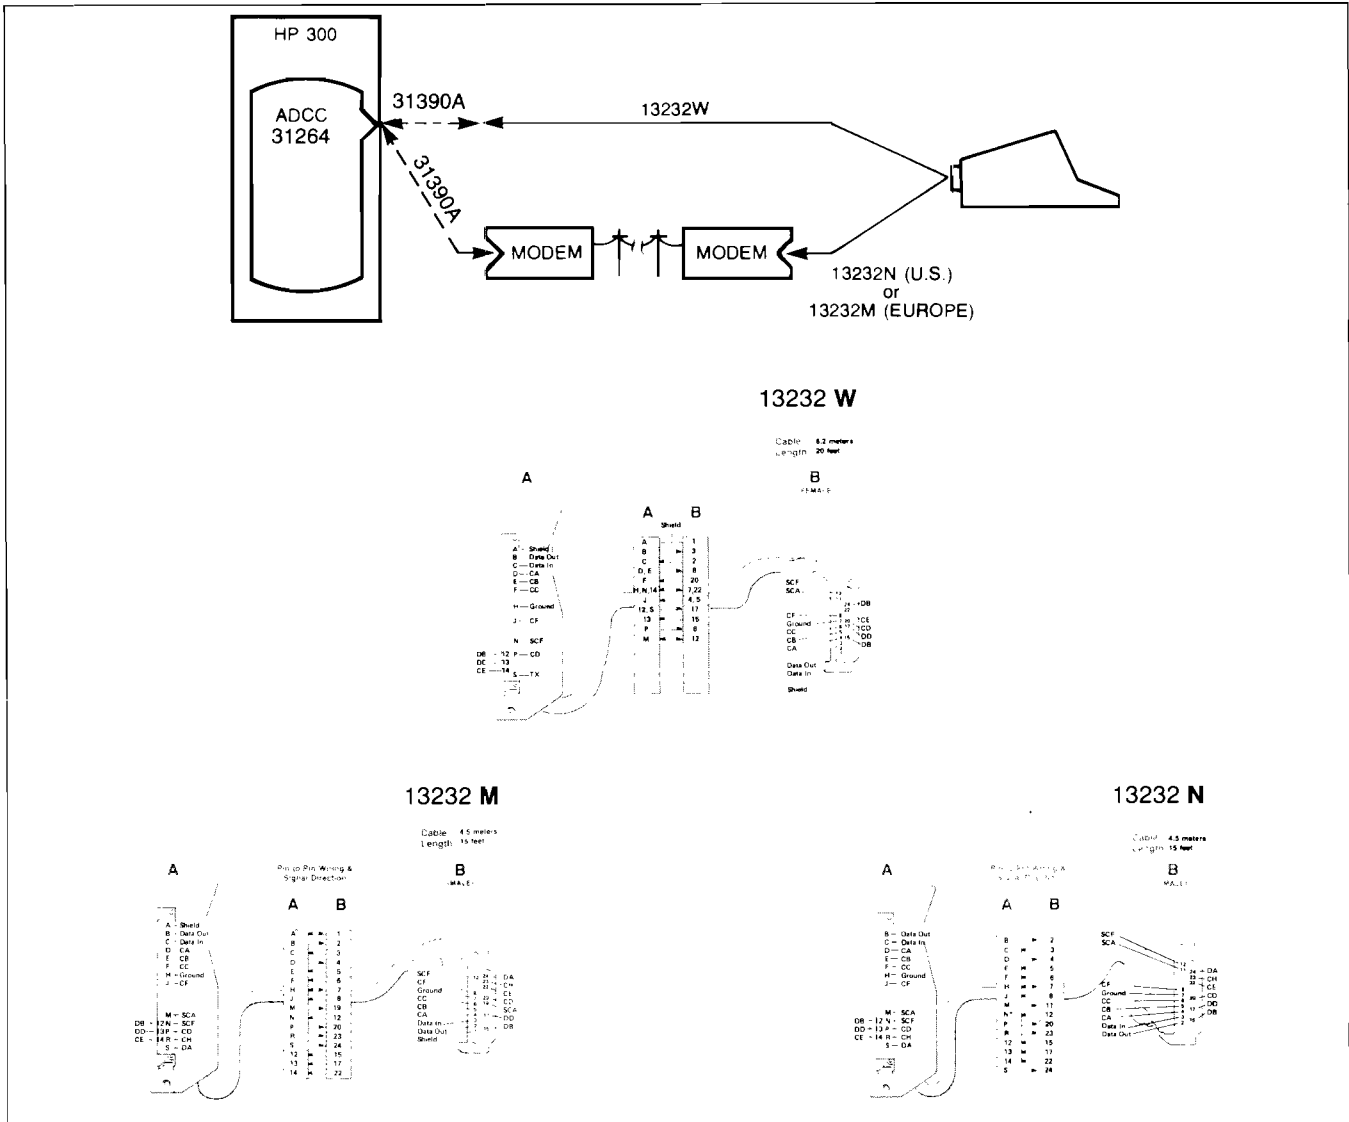

Figure 1-7. Connecting the Terminal to the HP 300 Computer System
To connect the HP 2647A terminal to the HP 300 Computer System, refer to figure 1-7 and perform the following:
- BLOCK MODE: UP (OFF) or DOWN (ON)
6. Connect the following cables (see figure 1-7):